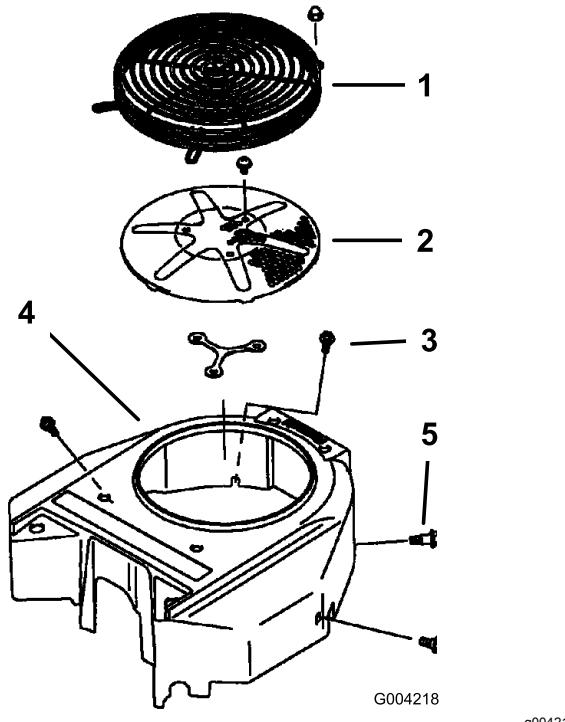

Figure 83
3. Remove the air-intake screen, the recoil starter, and the fan housing (Figure 83).
5. Install the air-intake screen, the recoil starter, and the fan housing (Figure 83).